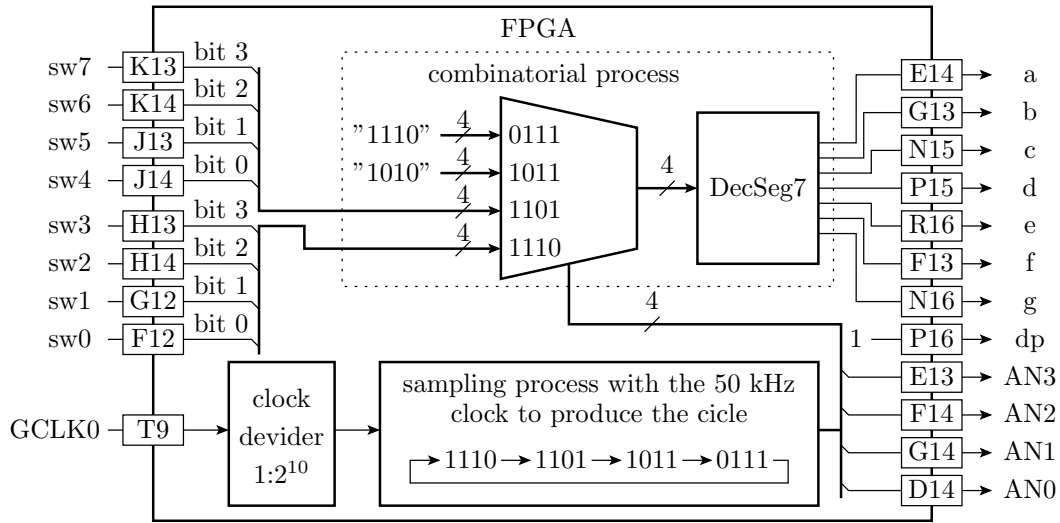
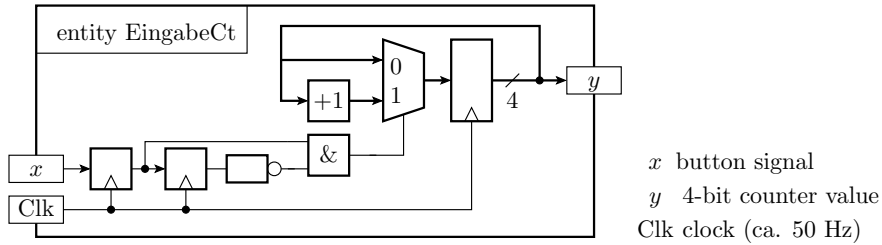
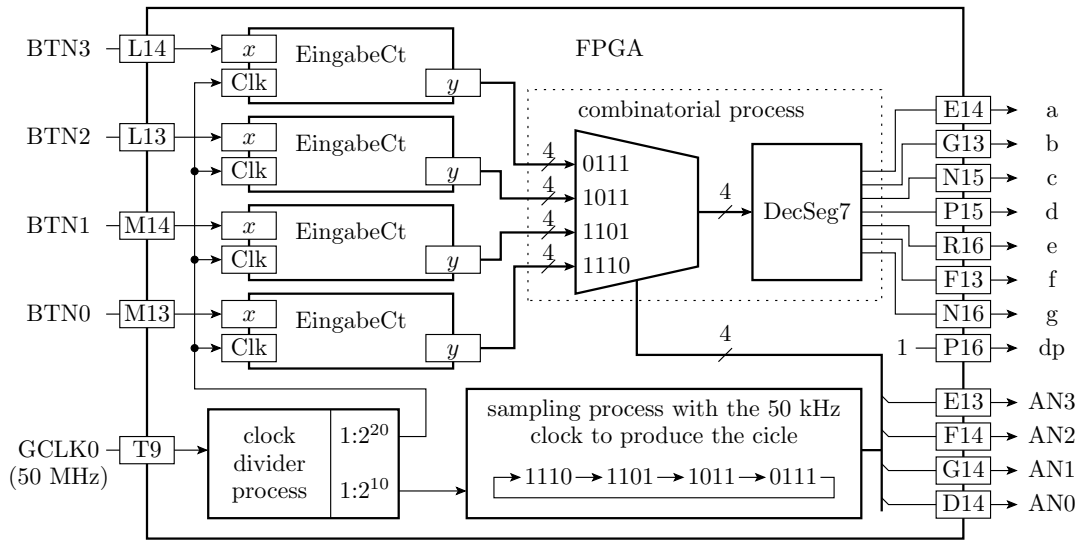

Figure 4: Circuit of the multiplex display
Figure 5: Counter units for setting a 4-bit value by a button
Figure 6: Multiplex display with counter units to set the display values
At the same time only one digit can be displayed. Multiple digits must be displayed cyclic after another. In the circuit in figure 4 the 50MHz input clock is scaled down by a 10 bit binary counter, i.e. by $2^{10} = 1024$. A clock divider has already been used in the previous lectures. It is described by a process with the 50MHz clock in the sensitivity list, in which with each rising edge of the input clock a counter register is increased by one and on overflow the output clock is inverted. The down scaled clock is the sample clock of the process, producing the 4-bit sliding zero vector for the anode signals. The rest of the circuit should be described in a combinatorial process. If the two left display elements are selected, the constants »1110« and »1010«, which are converted in the characters »E« and »A«, respectively, should be displayed. The values for the right digits should be selectable via the switches and transformed by the seven segment decoder into the anode signals *a* to *g*. Combinatorial process means that all input signals, here the signals from the switches and the anode signals, must be in the sensitivity list. Sampling of the asynchronous switching signals is in this special case unnecessary for the bouncing does inf fact disturb the output signals, but not in a perceptible way.
In the next design, the four 4-bit hexadecimal values to be displayed should be provided by counters. There should be one counter per digit controlled by own push button each as shown in figure 5. The button signal is sampled as in the lecture before by a 2-bit shift register. If the button is pressed and was released in the sample step before, the counter value will be increased by one, circularly. Circular means that the next step after »1111« is »0000«. The debouncing clock frequency should be about 50 Hz. The circuit in figure 5 should be described as a separate design unit and simulated with the input waveform on the handout sheet. Complete the sketch on the handout sheet with the simulation results.
Next, four instances of the counter unit in figure 5 should be inserted in the previous description in figure 4 to set the displayed values by the buttons. Figure 6 shows the complete circuit, that should be designed, programmed, tested and presented to the supervisor¹
- presentation of the operation of the final downloaded circuit to figure 4
- simulation results on the handout sheet to figure 5
- presentation of the final downloaded circuit in figure 6